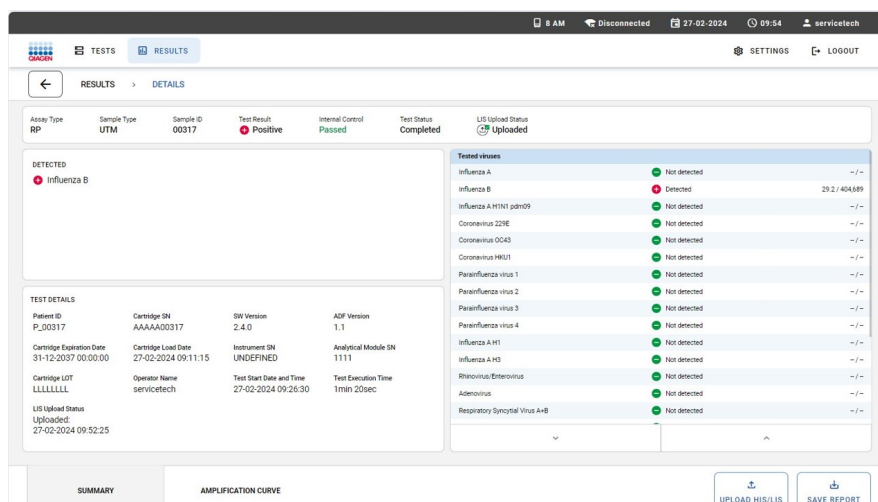

Figure 79. Manually upload a test result to HIS/LIS.
3. To upload the result, press the **UPLOAD HIS/LIS** button in the submenu bar (Figure 79).